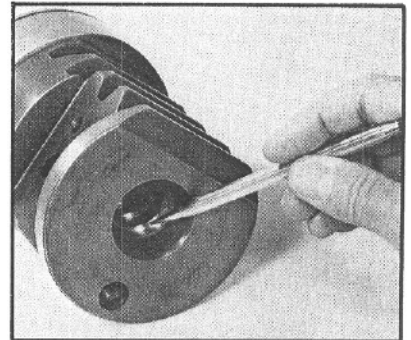

Figure 79
2. Inspect the rack piston internal ball-track grooves for brinelling (dents) or spalling (flaking) (FIG. 79). If either condition exists, you must replace all of the following parts: the rack piston, the worm shaft/input shaft (17), the drive ring (16), and the valve sleeve (15).